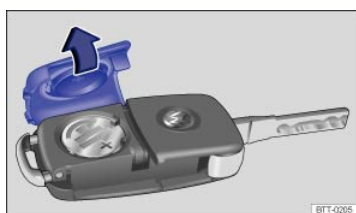

Fig. 17 Remote control vehicle key: Open battery compartment cover.
The battery is in the back of the remote control vehicle key under a cover ⇒ *Fig. 17*.
- Remove the cover on the back of the remote control vehicle key ⇒ *Fig. 17* in the direction of the arrow ⇒ .
- Position the cover as shown ⇒ *Fig. 17* and press it down (opposite to direction of the arrow) until you hear it click into place.